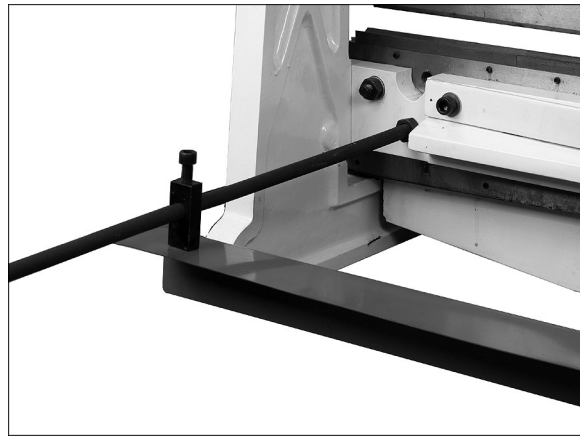

Figure 7
1. Install the guide rods and plate in the shear position (Figure 7) and adjust it to the desired length of the cut workpiece.